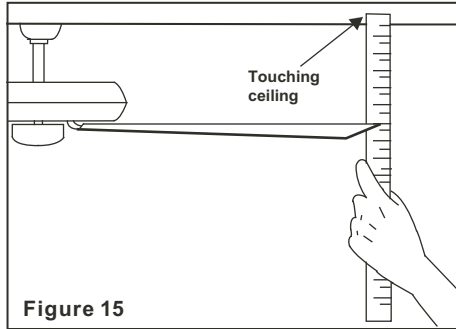

Figure 15
2. Most fan wobbling problems are caused when blade levels are unequal. Check this level by selecting a point on the ceiling above the tip of one of the blades. Measure this distance as shown in Figure 15. Rotate the fan until the next blade is positioned for measurement. Repeat for each blade. The distance deviation should be equal within 1/8".